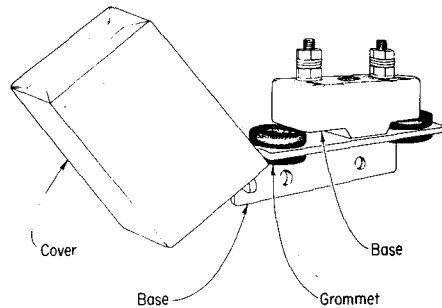

Fig. 8—101A Wire Terminal
4.04 The details of the superseded 101A wire terminal are shown in Fig. 8. Replacement piece parts for this terminal are not available.